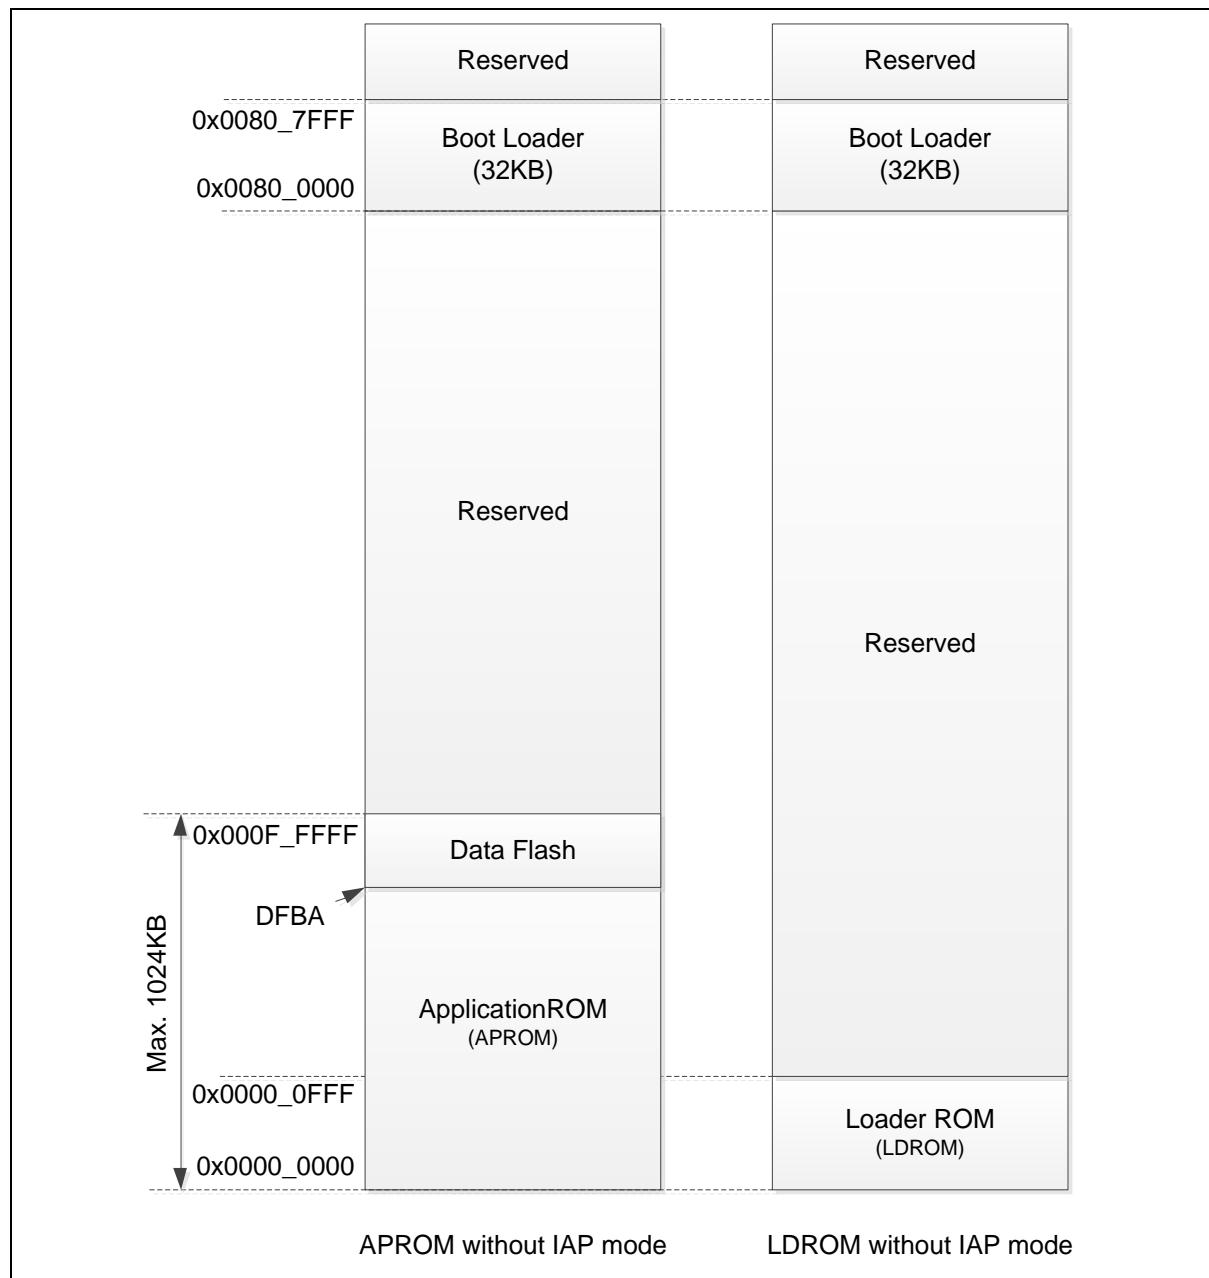

Figure 6.4-11 System Memory Map without IAP Mode
In system memory map without IAP mode, CPU still can access Boot Loader(0x0080_0000~0x0080_7FFF) and SPROM(0x0020_0000~0x0020_0FFF), but the system memory vector mapping is not supported. There are two kinds of system memory map without IAP mode when chip booting: (1) LDROM without IAP, (2) APROM without IAP. In LDROM without IAP mode, LDROM base is mapping to 0x0000_0000. CPU program cannot run to access APROM. In APROM without IAP mode, APROM base is mapping to 0x0000_0000. CPU program cannot run to access LDROM. The Data Flash is shared with APROM and the Data Flash base address is defined by CONFIG1. The content of CONFIG1 is loaded into DFBA (Data Flash Base Address Register) at the Flash initiation. The DFBA~(0x0000_FFFF/0x0001_FFFF/0x0003_FFFF/0x0005_FFFF /0x0007_FFFF) is the Data Flash region for Cortex®-M4 data access, and 0x0000_0000~(DFBA-1) is APROM region for Cortex®-M4 instruction access when APROM size is 64KB/128KB/256KB/384KB/512KB, respectively. Figure 6.4-11 shows the system memory map without IAP mode.